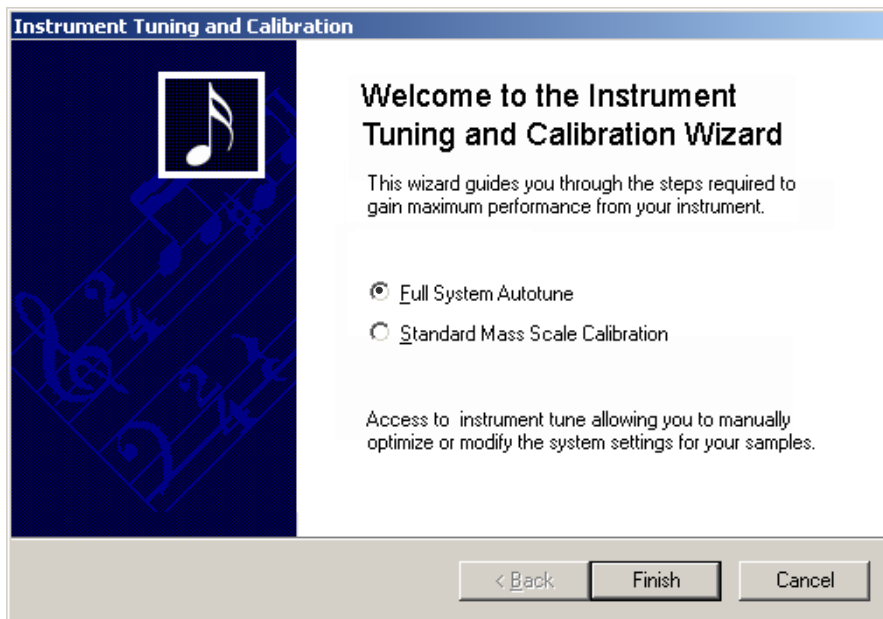
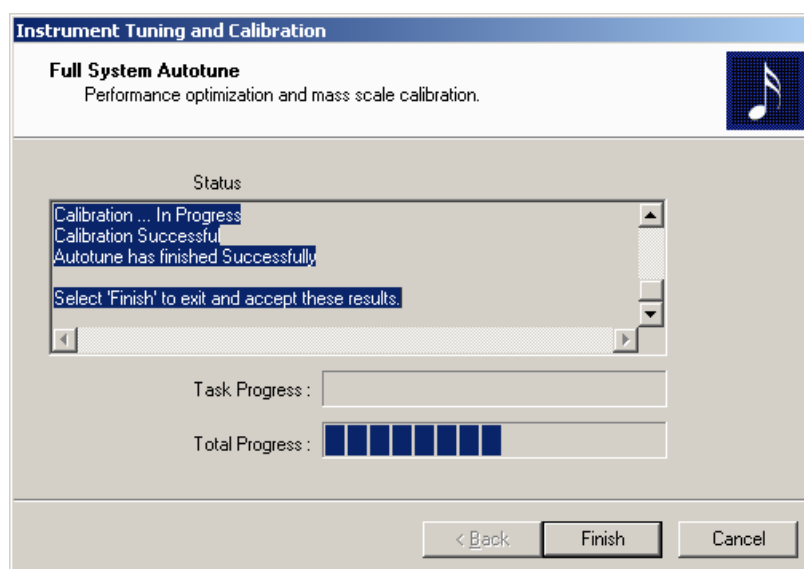

Figure 2-8. Tuning and Calibration Wizard
Figure 2-12. Instrument Tuning and Calibration window
The MSQ is provided with a comprehensive Autotune system that offers two levels of fully automatic system tuning and mass calibration; namely, **Full System Autotune** and **Standard Mass Scale Calibration** (as shown in the Tuning and Calibration Wizard, Figure 2-8).
- Select **Full System Autotune** and click on **Next** (see Figure 2-8, page 2-9). The tune/calibrate sequence will start, and its progress will be displayed in the Instrument Tuning and Calibration window (see Figure 2-12).